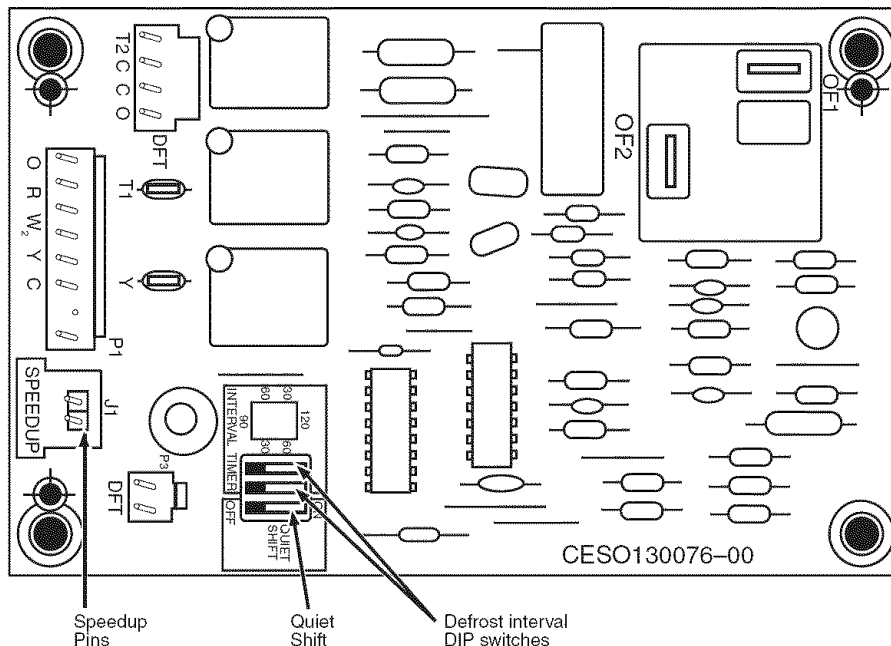

Fig. 23 - Defrost Control
2. Disconnect outdoor fan motor lead from OF2 on control board (See Fig. 23). Tape to prevent grounding.